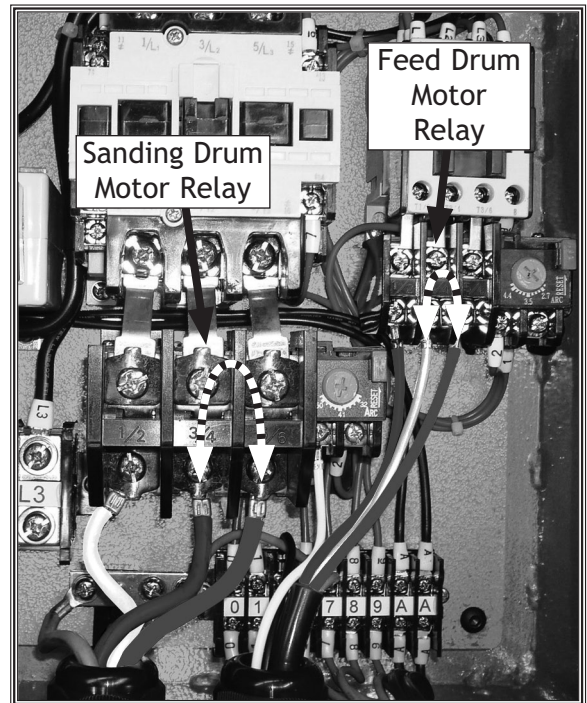

Figure 22. L2 and L3 feed and sanding drum relay wires switched.
- If the top of the conveyor belt rotates toward the front of the machine, it is moving in the wrong direction. Stop the machine, shut **OFF** the power source, then swap any two wires at the feed motor relay (see **Figure 22**). If the W1773 is connected to a phase converter, swap the L2 and L3 wires to correct the conveyor belt rotation.
- If the drums rotate toward the front of the machine, they are moving in the wrong direction. Stop the machine, shut **OFF** the power source, then swap any two wires at the sanding drum motor relay (see **Figure 22**). If the W1773 is connected to a phase converter, swap the L2 and L3 wires to correct the sanding belt rotation. (The "wild wire" is connected to the L1 terminal.)